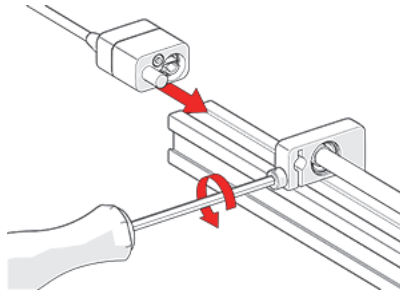

Figure 3-37 Loosen and slide post in place
1. Loosen the clamp screw on the encoder with the supplied 3 mm hex driver (see Figure 3-37 on page 61).